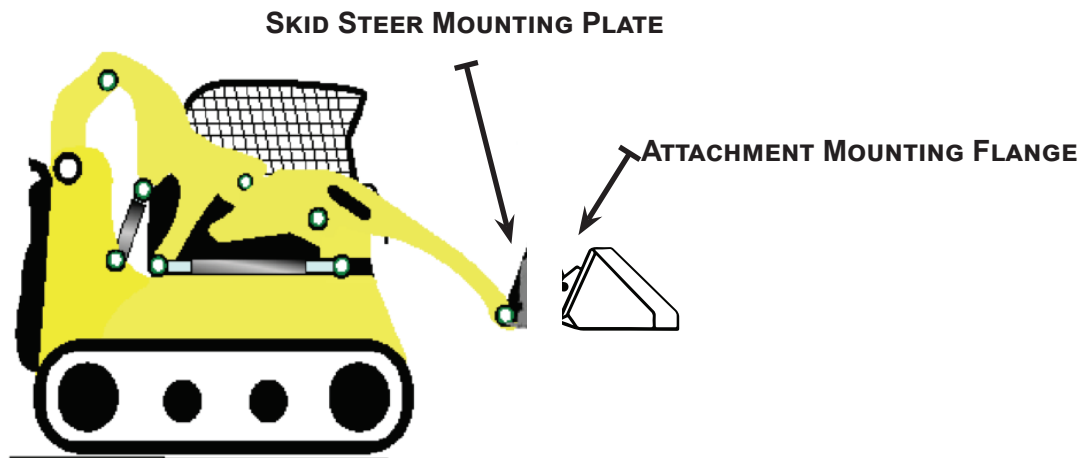

FIGURE 4.2A - SKID STEER MOUNTING PLATE TO ATTACHMENT MOUNTING FLANGE
2. Drive the skid steer to the attachment plate and tilt the skid steer coupler forward and hook the top edge of the skid steer quick attach mechanism under the lip of the bucket's attachment plate. See figure 4.2a below.
3. Slowly raise and tilt back the skid steer mounting plate, moving upward until the bucket's attachment plate is flat against the skid steer quick attach mechanism. See figure 4.2a below.